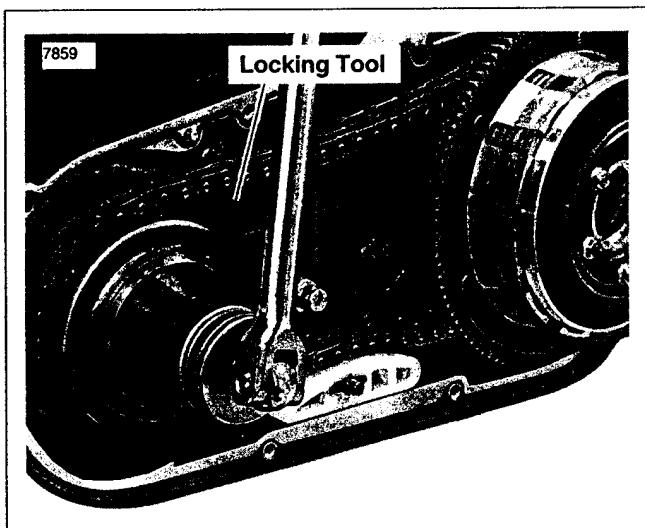

Figure 6-10. Removing Compensating Sprocket Nut
See Figure 6-10. When removing the compensating sprocket nut the PRIMARY DRIVE LOCKING TOOL (Part No. HD-41214) must be placed between upper strand of primary chain and compensating sprocket.
7. See Figure 6-10. Using a breaker bar, remove the compensating sprocket nut.